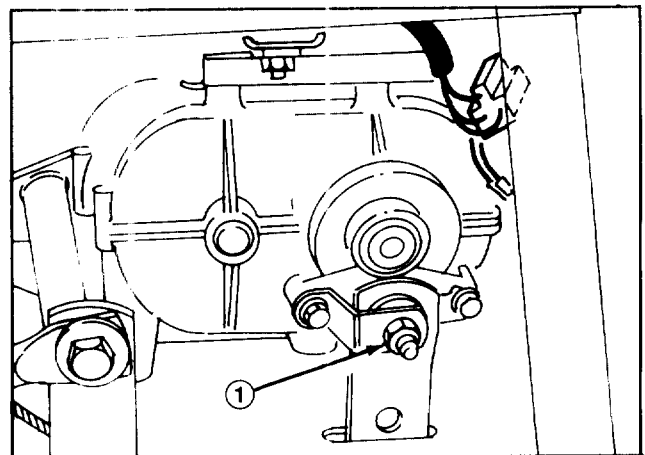

Figure 28
2. Tighten locknut approximately 1/4 turn clockwise (Fig. 28).